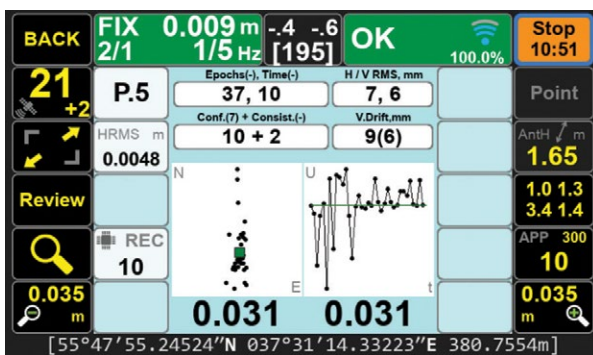
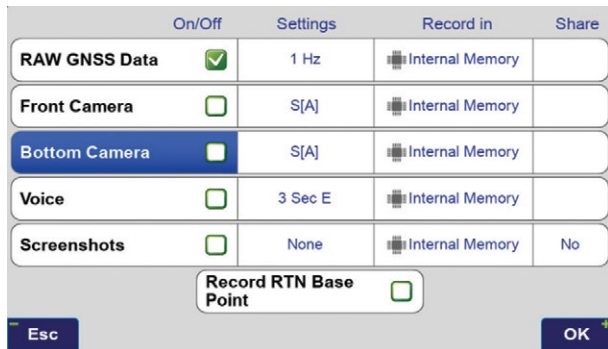

Figure 3 End of Step one
Figure 7 What to record screen
- **Step One.** In Step One, fixed engines are reset and solutions are collected into groups. Each group contains all the epochs located within a specified radius (the CG value) from its center and new groups are created as necessary so that all epochs fall into at least one group. Each group has its own Epoch Counter, Confidence Level and Elapsed Time. A point may fall into more than one group. The groups are sorted from best to last by the sum of their Time and Confidence with the current best group being shown within [] and others within (). Step One continues until a group reaches the Confidence Level. (Figure 3)
Action Screen shows detailed information about each point collected. Screen shots can automatically be attached to each point and saved at the end of each collection (Figure 7). In **Verify with Automatic RTK Engines Resets** screen shots at the end of both Step One and Step Two are saved (Figures 3